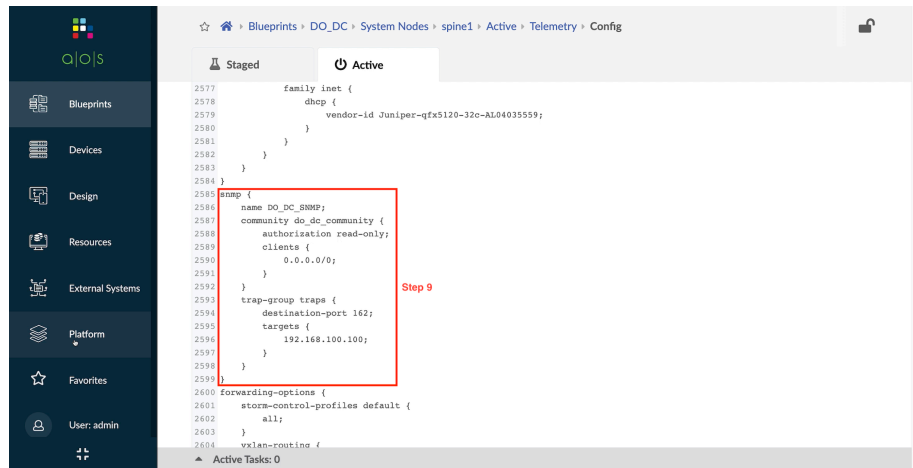

Figure 7.31 Verifying a Configlet Has Been Applied
Step 9: Find and view the added configuration. See Figure 7.31.